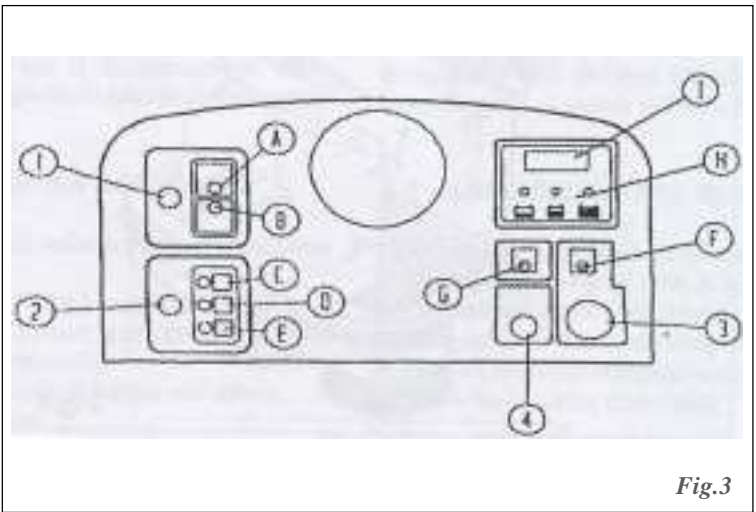

Fig.3
- 3 Turn the general key switch **3, fig. 3** to **ON** (indicator light F comes on).